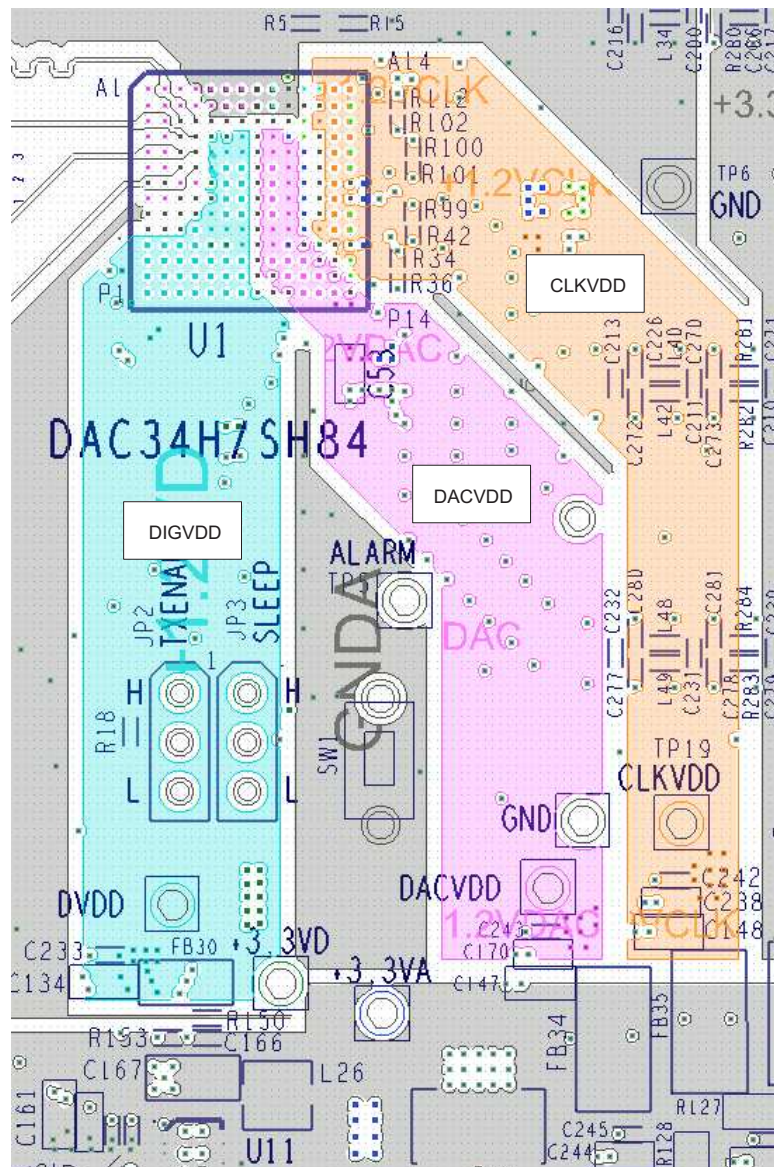
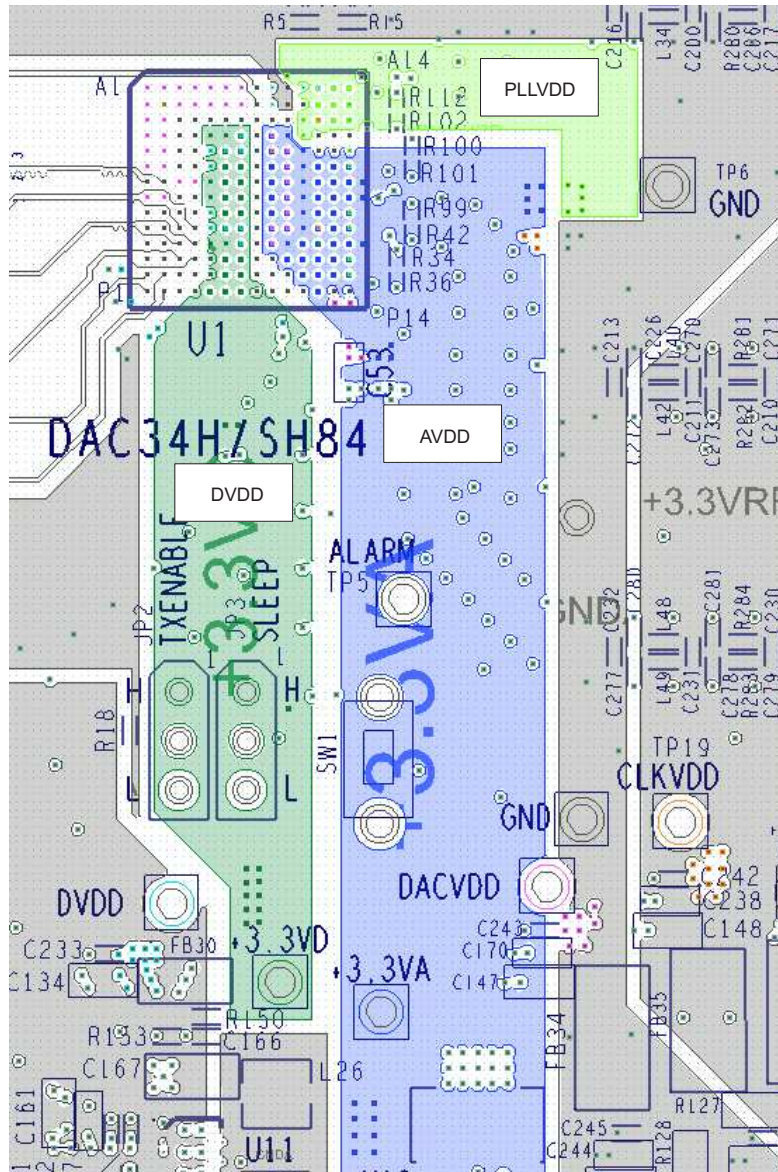

Figure 98. Third Layer of DAC34SH84 Layout Showing Power Layers. Layout Example from DAC34SH84EVM Rev H
Figure 99. Sixth Layer of DAC34SH84 Layout Showing Power Layers. Layout Example from DAC34SH84EVM Rev H
The following layout guidelines correspond to the layouts shown in Figure 98 and Figure 99.
2. As shown in Figure 98 and Figure 99, both layers three and four are designated for power supply planes. The DAC analog powers are all in the same layer to avoid coupling with each other, and the planes are copied from layer three to layer four for double the copper coverage area.